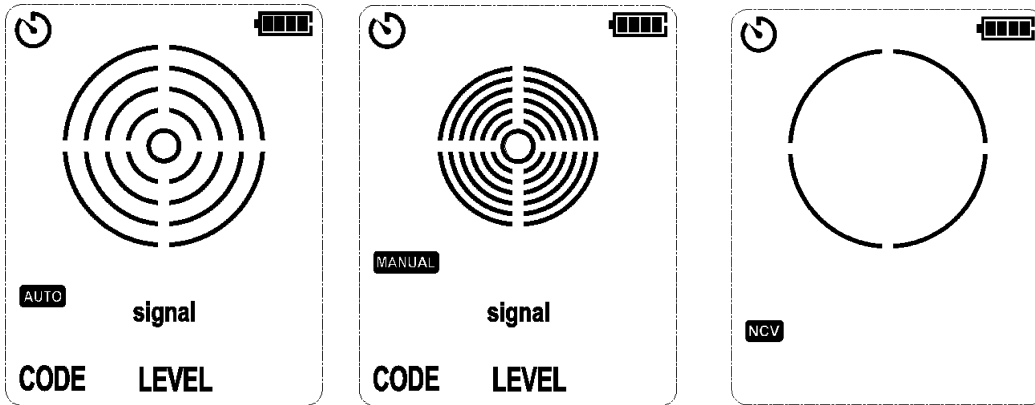

Figure 6.2.3a AUTO
1. The receiver is in power-on state: In AUTO or MANUAL mode (in cable tracking mode), short press the NCV button to switch to NCV mode. In NCV mode, short press the NCV button to switch to AUTO mode (in cable tracking mode). As shown in Figures 6.2.3a, 6.2.3b and 6.2.3c.